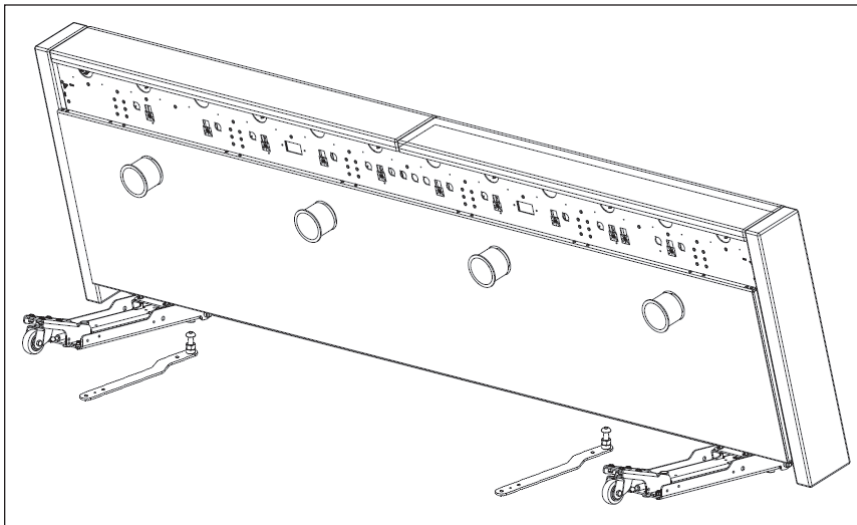

Figure 20: Both Caster Bases Resting on Floor
4. Move to the left side caster base and repeat **Steps 2-3**. The table should now be resting on the floor. Refer to **Figure 20**.
4. Tilt the display face forward just far enough to **remove the Caster Base Tool** from the top of each caster base pivot arm. Set the Caster Base Tools aside, and carefully let the display face tilt all the way backward. Adjust cup holders as needed to ensure the tabletop can be pushed flush against the display cabinet. Refer to **Figure 20**.